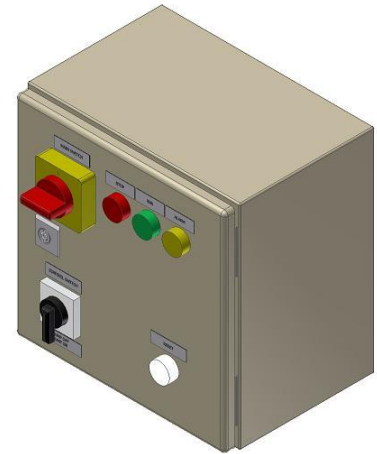

Figure 2.2-7
- Main power switch (red/yellow in Figure 2.2-7) is connected to the motor protection relay. Positions "0" (zero) and "1". The contact breaker controls the main power to the HX-unit, including the HX control unit.
- Pump power switch (black and white in Figure 2.2-7), positions "0" (zero) and "1". The contact breaker controls the power to the HX-unit pump (PU11). The pump can be started by turning the switch to position "1", and stopped by turning it back to position "0".
- LS11 leak sensor reset switch (white in Figure 2.2-7) resets the leak alarm. To reset the alarm, the liquid must first be removed from the sensor on the HX-unit leakage plate.